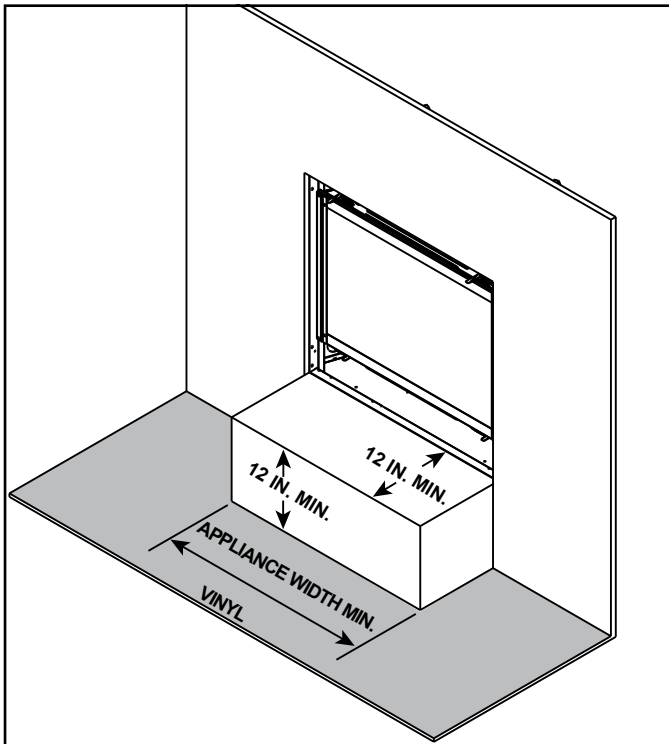

Figure 3.15 Vinyl Flooring Recommendations
Vinyl flooring is sensitive to heat. To avoid damage to the vinyl flooring, a 12 inch minimum x 12 inch minimum hearth is recommended when using vinyl flooring up to the wall. See Figure 3.15. If no hearth is used, it is recommended to provide a minimum of 30 inches of clearance in front of the appliance to the vinyl flooring OR the bottom of the appliance should be raised a minimum of 24 inches off of the floor to allow the vinyl flooring to be installed up to the wall.
- Combustible flooring may be located in front of the appliance. There are exceptions in regards to vinyl and/or adhesive flooring for these models as noted in Figure 3.15.